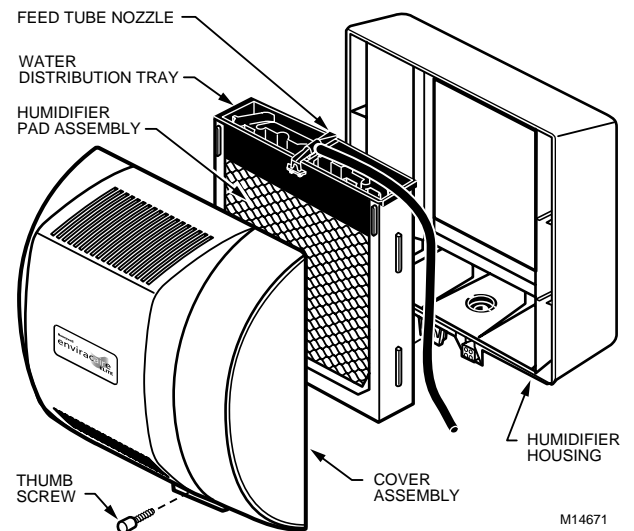

Fig. 4. Humidifier components.
5. Remove the humidifier pad assembly by grasping the top of the tray and pulling the assembly out of the housing. See Fig. 4.